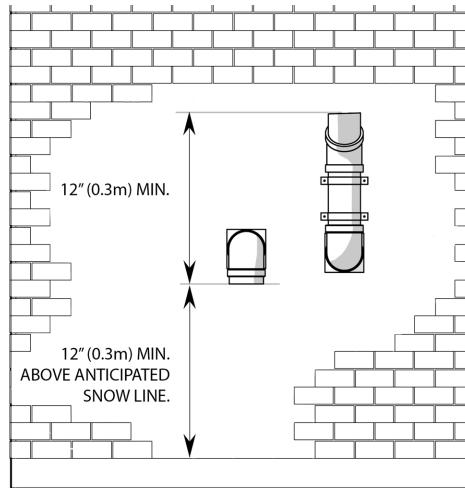
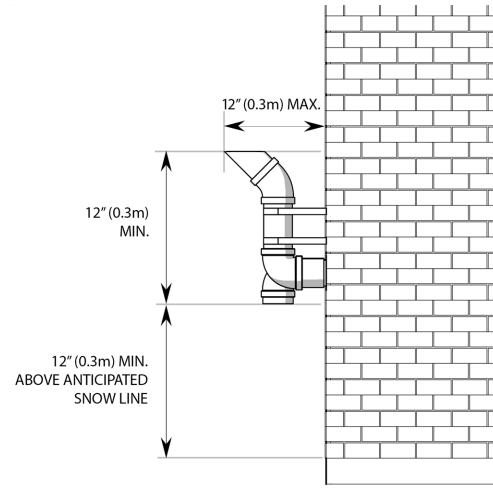
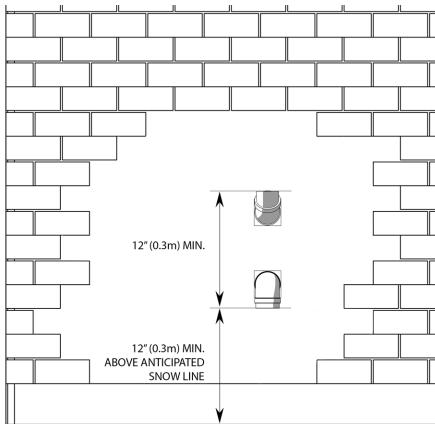
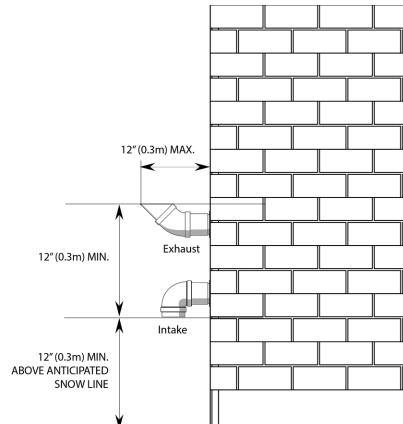

Figure 20 Vent termination clearance--horizontal perforations
Figure 21 Vent termination clearances--horizontal perforations, side view
Figure 22 Vent termination clearance--vertical alignment
Figure 23 Vent termination clearances--vertical alignment, side view
- » (Optionally) Raise the elevation of exhaust termination "periscope style" after passing through the wall, to gain the required clearance as shown in Figure 20 and Figure 21.
- » Use a 45° elbow on the exhaust termination to launch the plume up and off the sidewall (for protection of wall). A short piece of venting cut at 45° gives a horizontal termination protected from wind loads (see Figure 21, and Figure 23).
Important! Maintain at least the minimum separation of exhaust vent termination from boiler intake air as illustrated in Figure 20, Figure 21, Figure 22 and Figure 23. Failure to do so can result in a dangerous situation where exhaust gasses are re-ingested with combustion air. Damage to the boiler can result from a failure to maintain these separations. Third party vent termination kits and concentric wall penetration kits that do not maintain these minimum separations must **not** be used. Improper installation will void the warranty. Do not use proprietary InnoFlue or PolyPro PP terminals without specific approval from IBC.